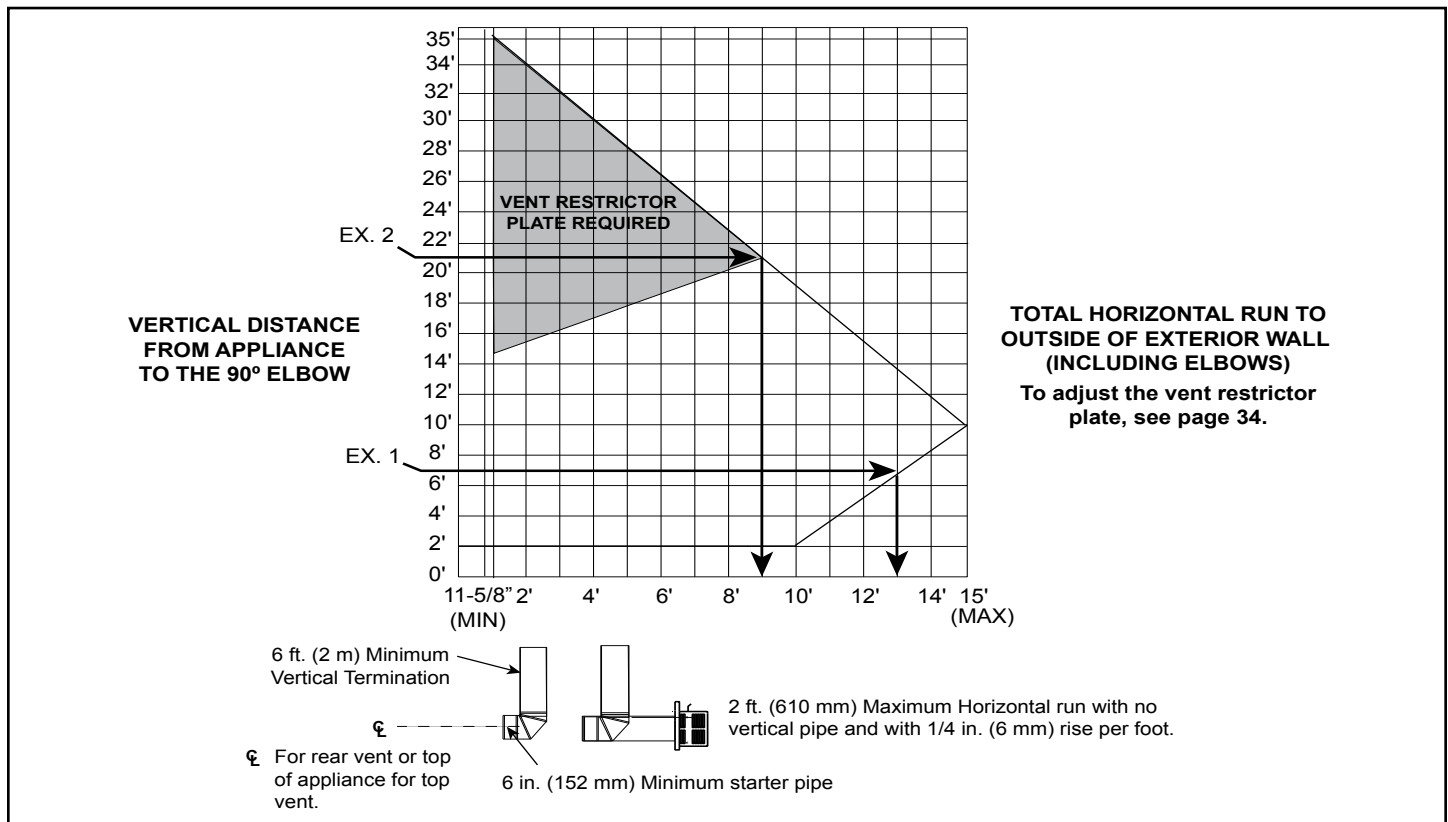
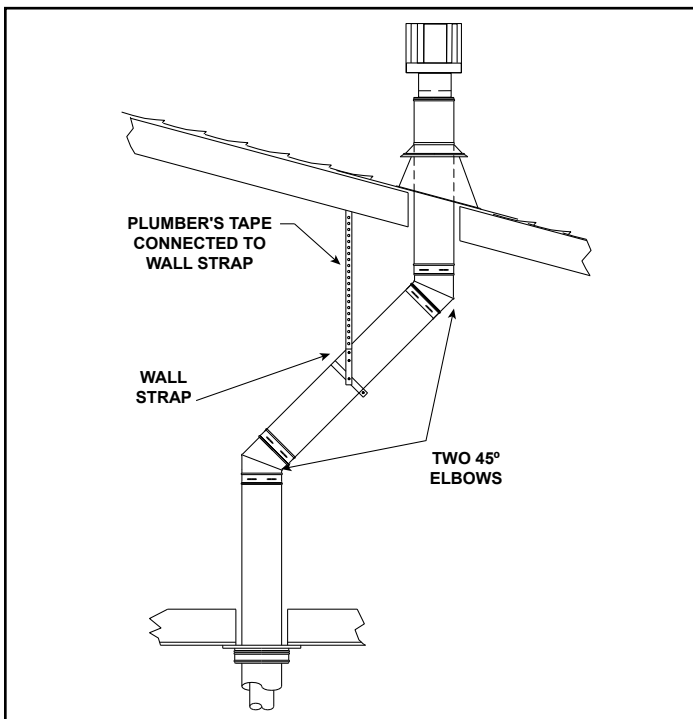

Figure 5.2
Figure 5.11
1. Check the installation instructions for required 1 in. (25 mm) clearances (air space) to combustibles when passing through ceilings, walls, roofs, enclosures, attic rafters, or other nearby combustible surfaces. Check the instructions for maximum vertical rise of the venting system, and any maximum horizontal offset limitations. All offsets must fall within the set parameters of the vent graph (Figure 5.2).
Note: Maximum vertical rise allowable is 40 ft. (10.7 m), Figure 5.11. Maximum number of 45° elbows permitted for a vertical installation is eight, provided their installation does not decrease maximum allowable horizontal run (as specified by vent graph, Figure 5.2).
2. Set the gas appliance in its desired location. Drop a plumb bob down from the ceiling to the position of the appliance flue exit, and mark the location where the vent will penetrate the ceiling. Drill a small hole at this point. Next, drop a plumb bob from the roof to the hole previously drilled in the ceiling, and mark the spot where the vent will penetrate the roof. Determine if ceiling joists, roof rafters, or other framing will obstruct the venting system. You may wish to relocate the appliance, or to offset, as shown in Figure 5.11 to avoid cutting load bearing members.
- If an offset is necessary in the attic to avoid obstructions, it is important to support the vent pipe every 3 ft. (914 mm) to avoid excessive stress on the elbows, and possible separation. Wall straps are available for this purpose, Figure 5.11.